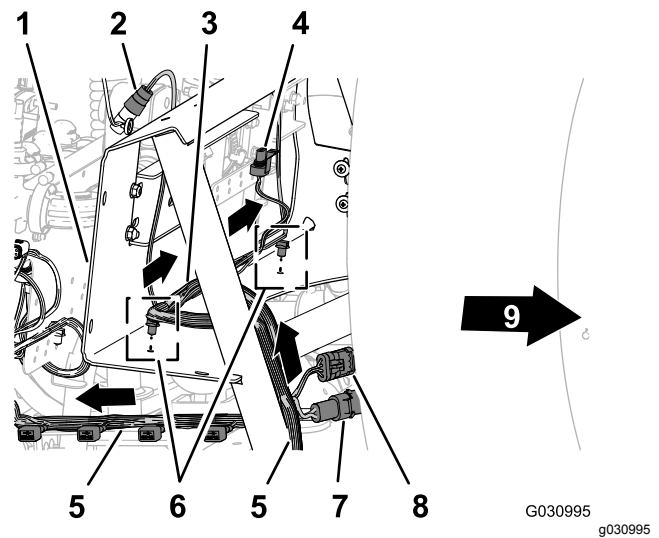

Figure 106
- Route the 218.4 cm (86 inches) branch of the wire harness inboard of the support strut for the valve mount and rearward toward the 10-valve mount as shown in Figure 106.
- Route the 75.5 cm (31 inches) wire harness branch for the flow meter and agitation valve across the front of the manifold mount (Figure 106).
- Insert the push-in fasteners of the 75.5 cm (31 inches) wire harness branch into the holes in the lower flange of the manifold mount (Figure 106).